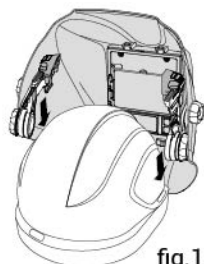

fig.15
- Slide adapter prongs into the slots located on each side of the hard hat (See fig.15).